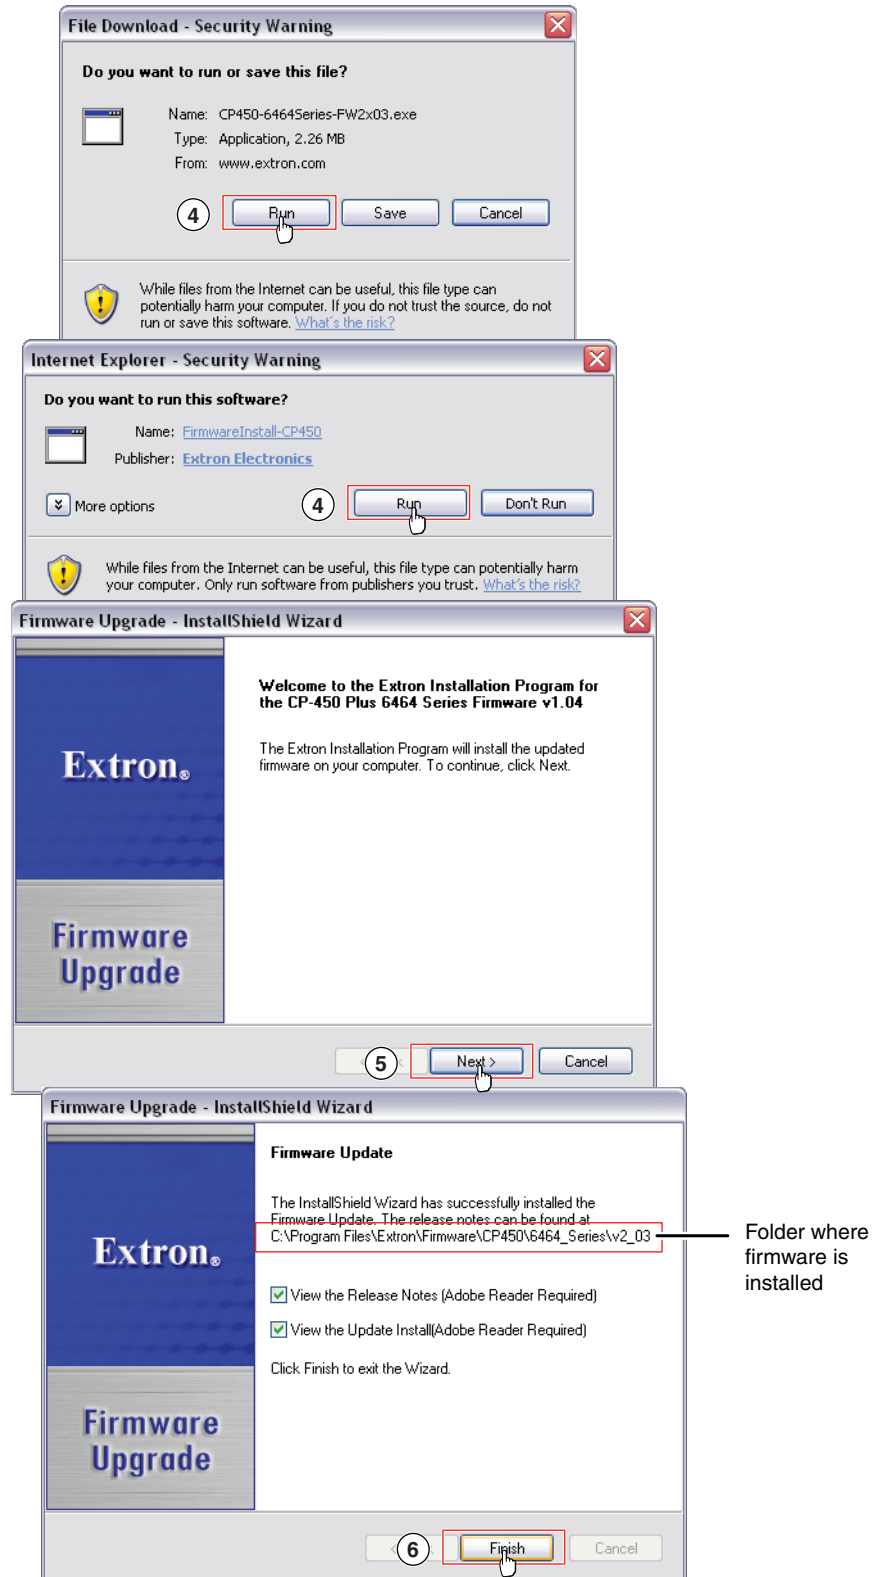

Figure 5-9 — Downloading firmware upgrade files
4. Click **Run** twice (figure 5-9 on the next page). The PC downloads the firmware update from the Extron Web site and starts the Extron Installation Program to extract the firmware file.